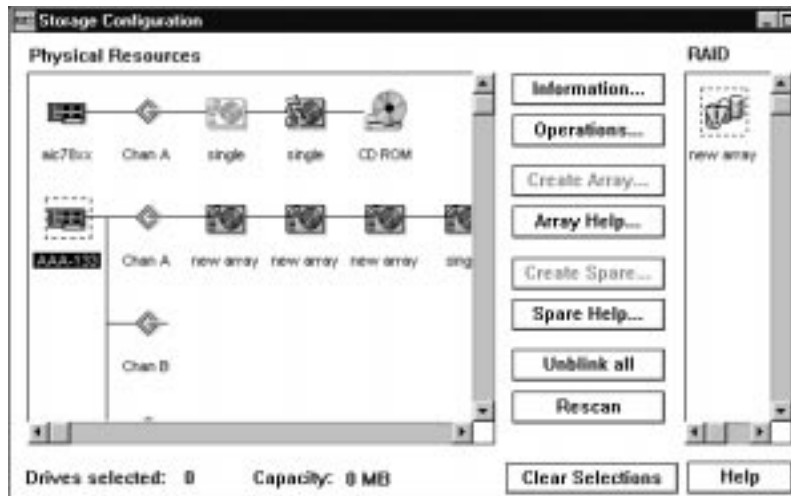

Figure 4-2. Storage Configuration Window
- 1 Start Adaptec CI/O Management Software and open the Storage Configuration window, as described in *Starting the Program* on page 4-2. This window looks similar to the one shown in Figure 4-2.